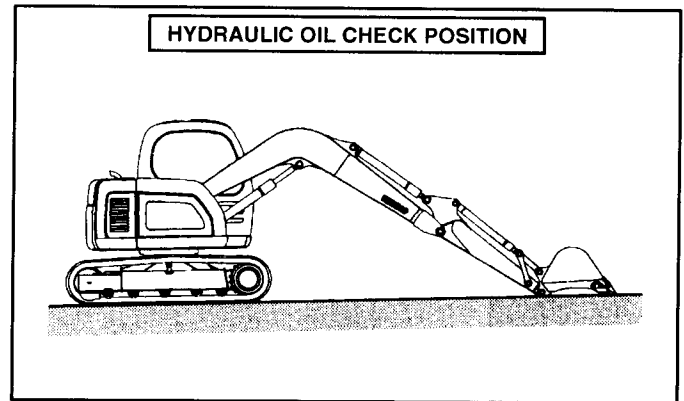

FIGURE 4.28
1. Place the machine in the Oil Check Position on a firm surface as shown in Figure 4.28.